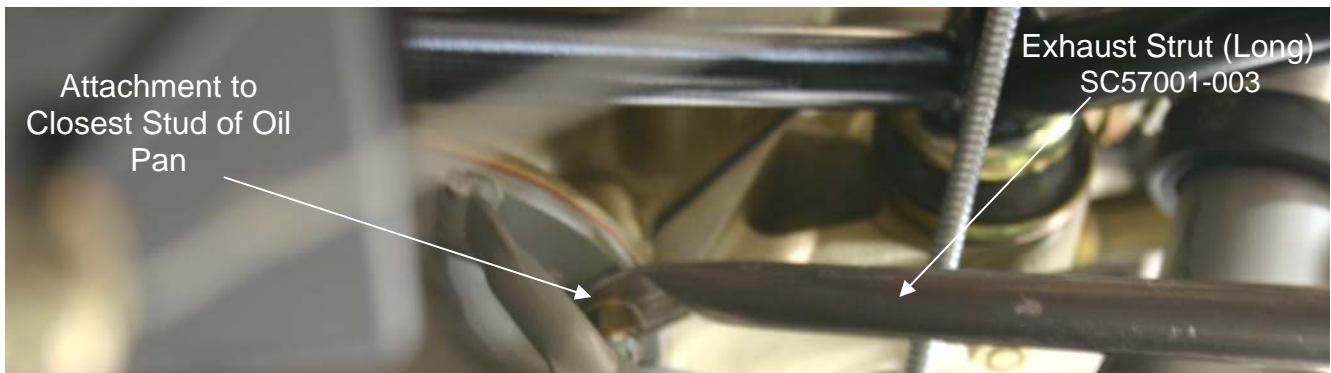

Figure 3 – Right Exhaust Strut Attachment to Oil Pan
1. Secure bent end of Exhaust Strut (SC57001-003) to closest stud of oil pan using existing oil pan hardware. (See Figure 3) Oil pan may be lowered to remove nut.